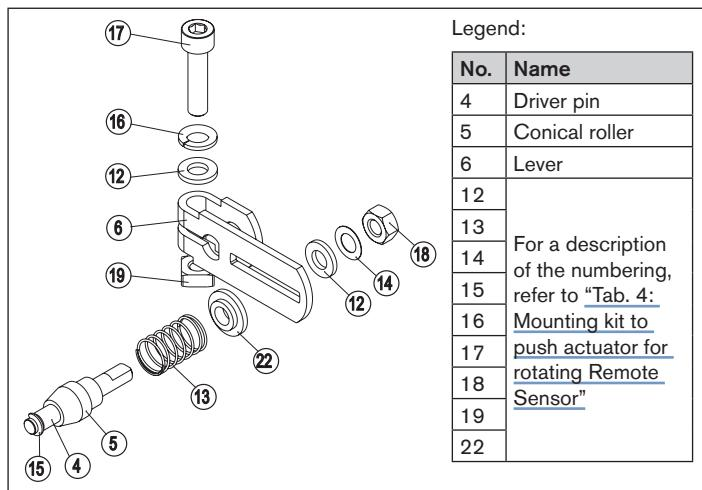

Fig. 26: Assembling the lever
- Assemble lever (if not pre-assembled) (see "Fig. 26").